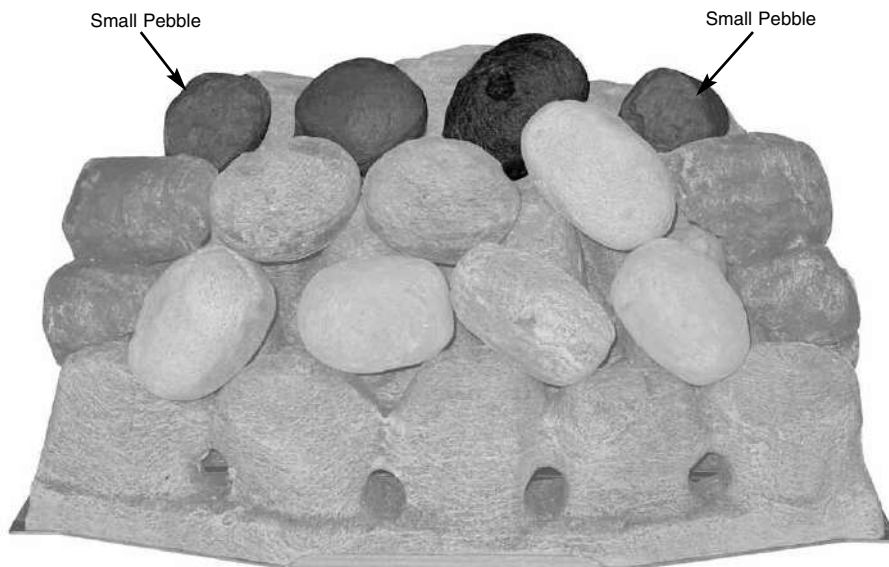

Fig. 24
6. Place the next two pebbles in the middle, on the back edge of the pebbles previously laid ensuring even gaps all round. Finally place the two small pebbles, one in each top corner. Make any adjustments necessary to achieve even gaps as this will help in giving a well balanced flame picture and an even glow (Fig. 24).